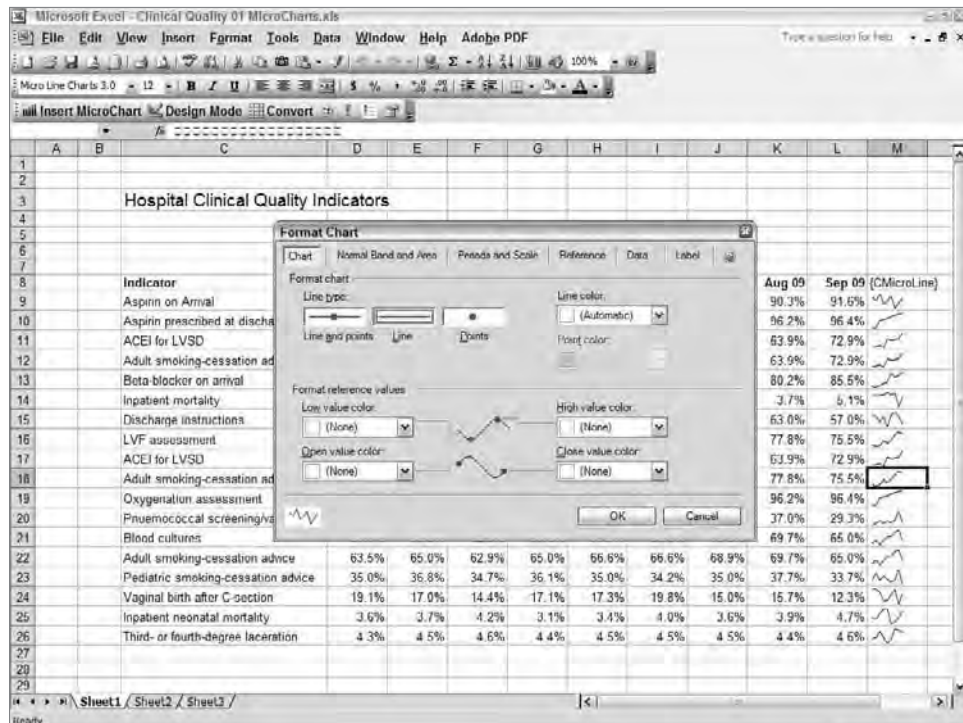

Figure 26.7: In the Format Chart dialog box, you can format the chart and add chart features such as Normal distribution area, baseline, and more.
2. Select the Format Chart command to display the Format Chart dialog box shown in Figure 26.7.